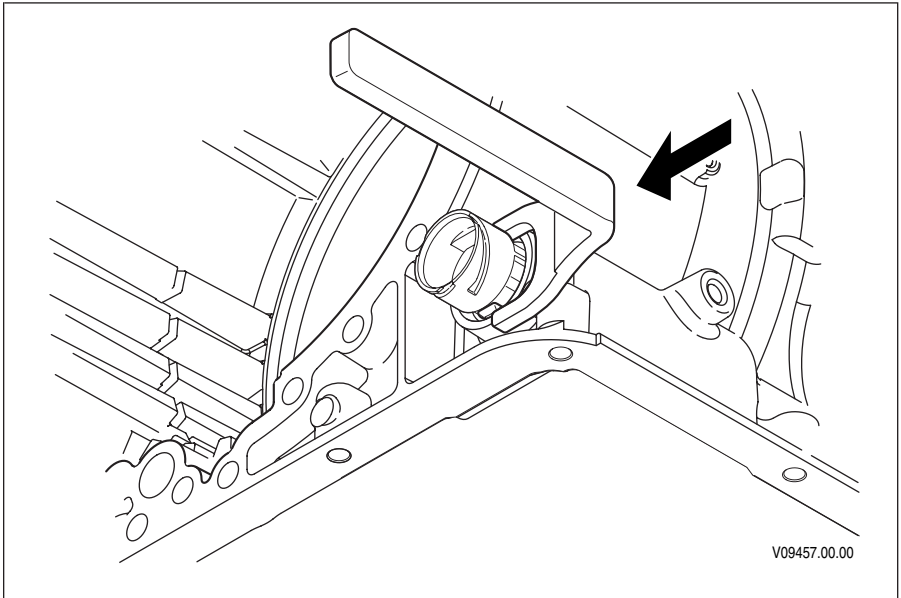

Figure 6–10. Removal Of Main Electrical Connector
12. Align the tabs on the wiring harness U-channel with the retaining clip slots for solenoids SS3 and SS2 on the control valve body. Install the retaining clips for the SS3 and SS2 solenoids (Figure 6–9).